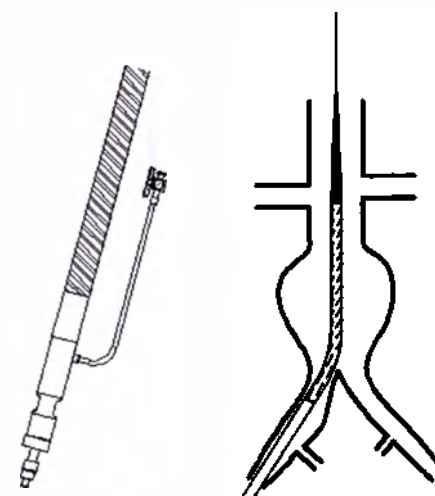

Fig. 5 Introduction of the delivery system
- ◆ Advance the delivery system to the abdominal aneurysm along the guidewire, and always maintain haemostasis valve in opposite side of the patient. (Fig. 5)